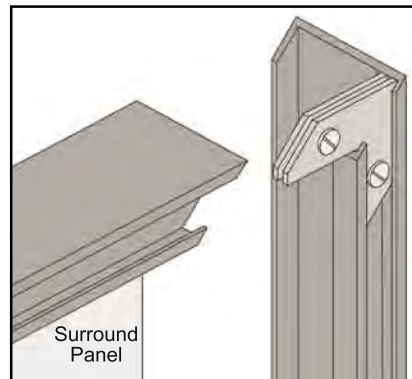
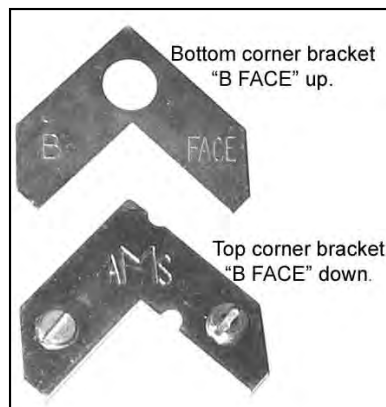

Figure 46: Corner brackets for trim.
Figure 47: Two pieces of corner bracket.
2. Attach one side trim to the top trim, using a corner bracket (see Figure 46) to secure pieces together. There are two (2) main pieces to each corner bracket (see Figure 47). When installing the corner pieces into the trim, the "B FACE" sides must face each other and the screw heads are to face out. With the bracket in place and the top and a side trim snug together, use a flat head screwdriver to turn the two (2) screws in the bracket to tighten it into the trim.
3. Slide the two (2) attached trim pieces onto the surround panel.